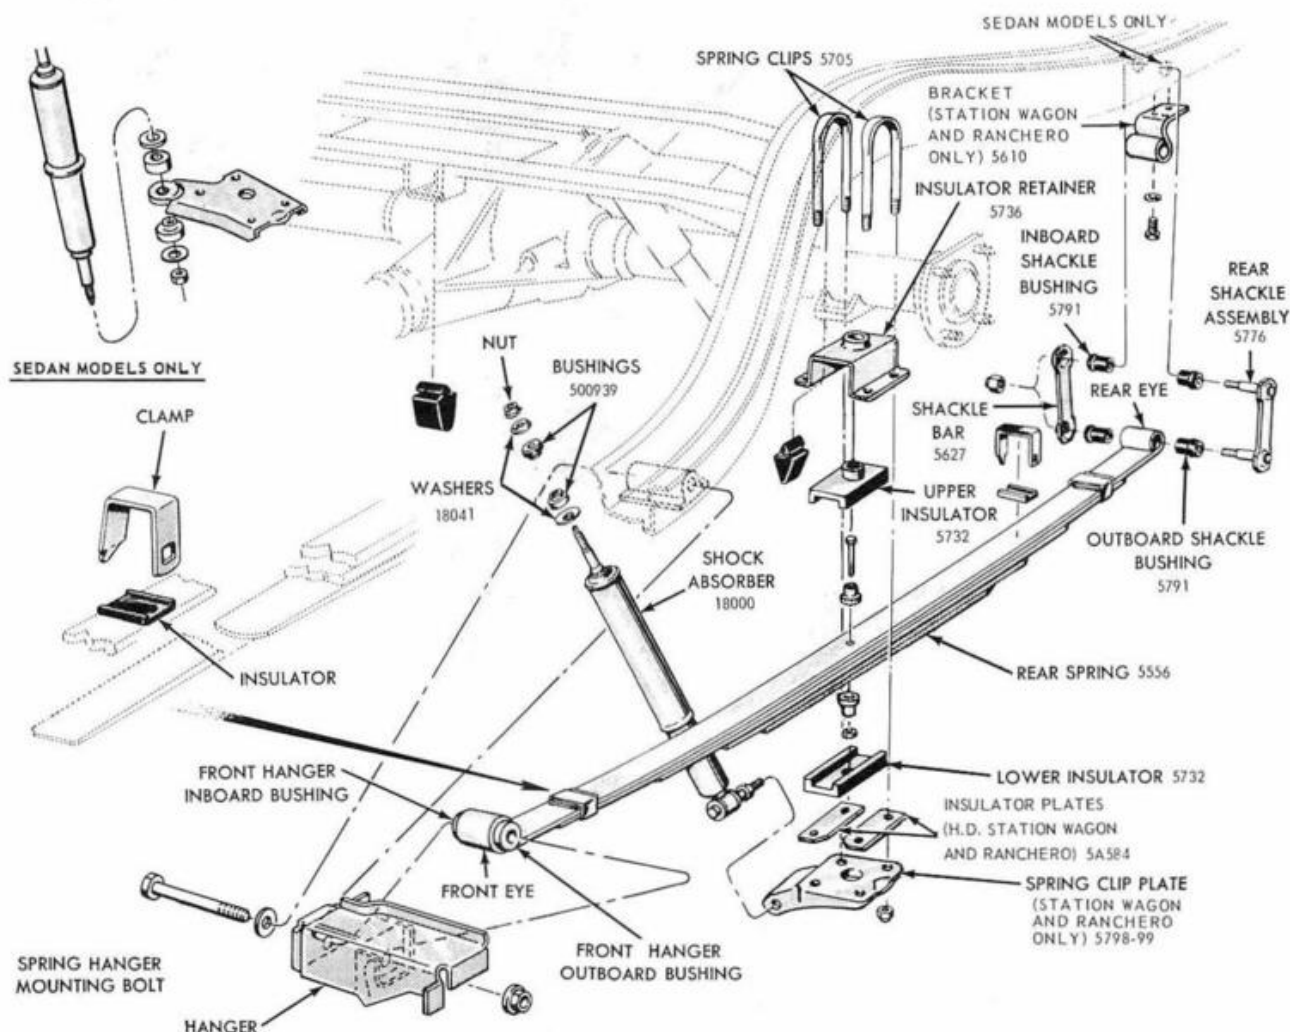

FIG. 18—Rear Spring and Shock Absorber—Typical
1. Disconnect the shock absorber from the spring clip plate (Fig. 18).
spring clip plate (Fig. 18). Compress the shock absorber and remove it from the car.
3. Connect the lower stud to the spring clip plate, and install the bushing, washer, and nut on the stud (Fig. 18). Be sure the spring clip plate is free of burrs. Tighten the nut to specification.
3. Remove the spring clip plate nuts from the U-bolts; then, remove the plate (Fig. 18).